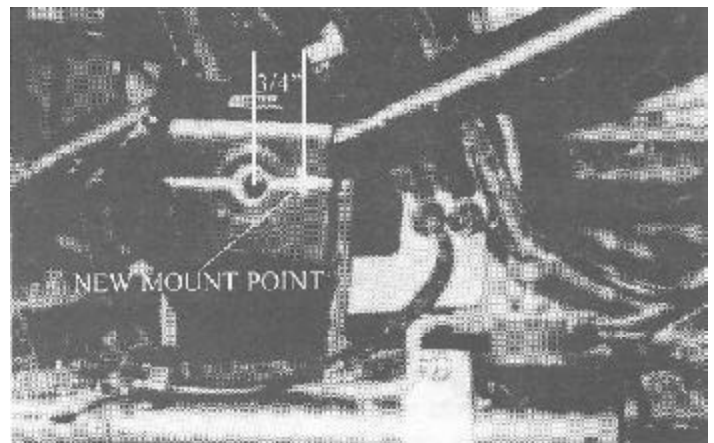

Fig. 4
3. Move the axle track bar mount hole over 3/4" to the PASS side of the vehicle as shown in **Fig. 4**.